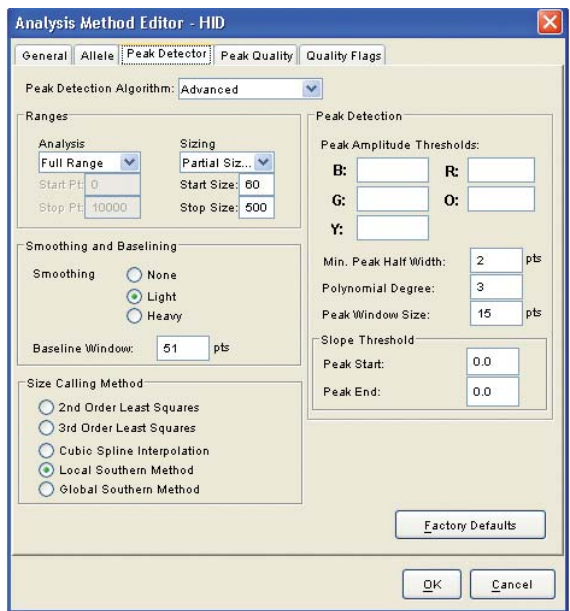

Figure 20. The GeneMapper® ID Peak Detector tab.
10. Select the Peak Detector tab (Figure 20). You will need to optimize these settings. In-house validation should be performed.
10. Select the Peak Detector Tab (Figure 20).